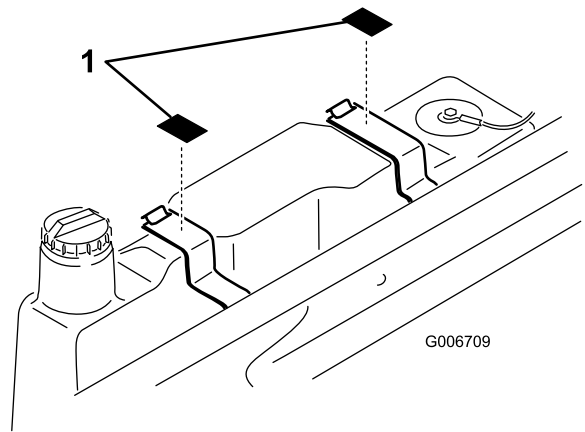

Figure 13
2. Affix a "No Step" decal to top of each fuel tank mounting strap, as shown in Figure 13.